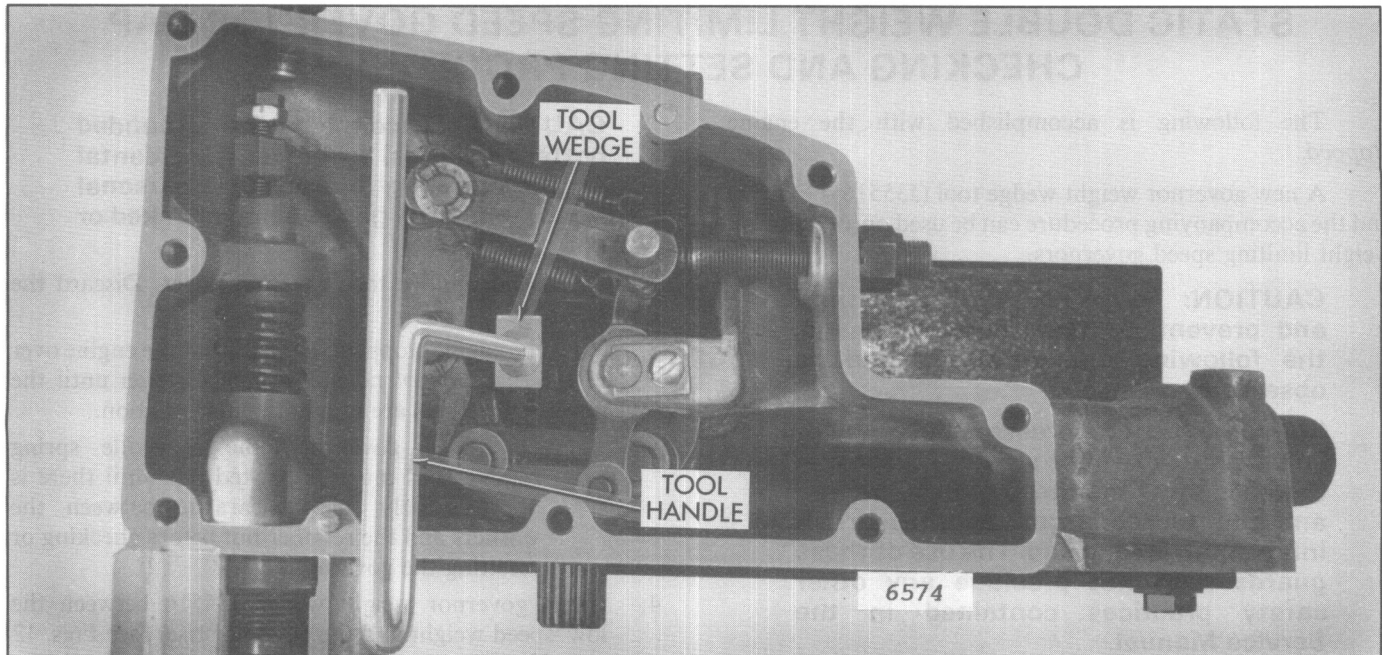

Fig. 12 – Tool J35516 Inserted Between Low Speed Weight and Riser
4. Insert governor weight wedge J35516 between the low-speed weight and the governor riser (see Figs. 12 and 13). The tapered face of the wedge should be against the riser and positioned between the flanges on the ends of the riser.
5. Insert governor weight wedge Tool J35516 between the low-speed weight and the governor riser (see Figs. 12 and 13). The tapered face of the wedge should be against the riser and positioned between the flanges on the ends of the riser.
3. Insert governor weight wedge Tool J35516 between the low-speed weight and the governor riser (see Figs. 12 and 13). The tapered face of the wedge should be against the riser and positioned between the flanges on the ends of the riser. To prevent the weights from rotating when the governor weight wedge tool is inserted, a clean, soft rag should be wedged between the blower housing and the blower rotors.